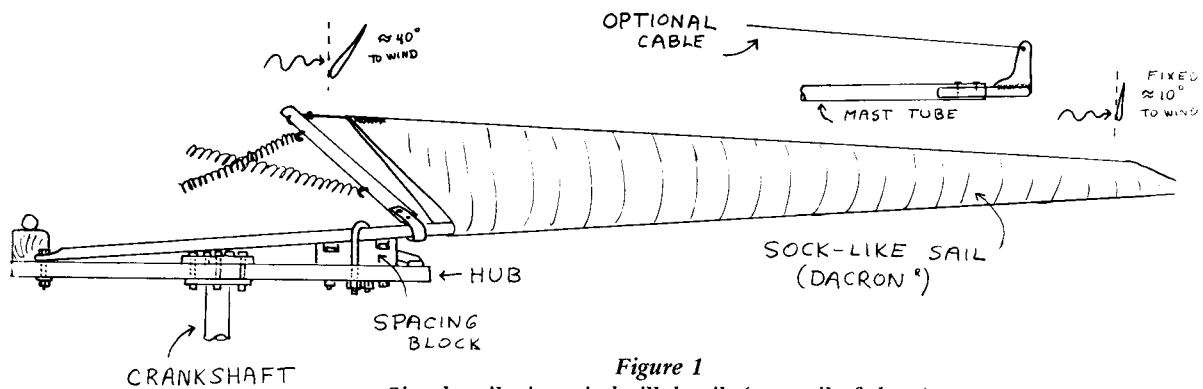

Figure 1
The vital part of the sail-wing windmill is the sail-blade, which consists usually of a fabric surface supported by a rigid mast. We have used Dacron (R) as a sail material because of its strength and durability. Figure 1 illustrates how the sail is slipped onto the mast like a sock and attached to the movable boom. The boom keeps the sail taut yet allows it to adapt to changes in the wind. Our first windmills had fixed-angle tips and feathering roots as illustrated.